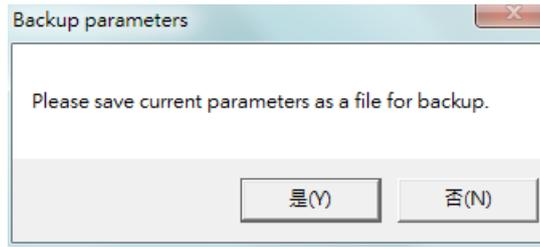

Figure 12.1.5
Step 2. Click the “File” option at the top-left corner of window and select “Update selected firmware to amplifier”. Then, the dialog window of Figure 12.1.5 will show up. If users want to save current parameters as a file, click the “(Y)” button; otherwise, click the “(N)” button.